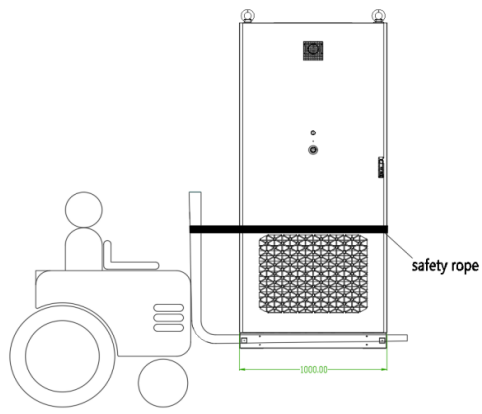

Figure 4-1 Schematic of Energy Storage Cabinet side forklift handling (forklift insertion is only permitted from the battery compartment side).
- Forklift forks may be inserted from all sides of the cabinet body. The forks should be inserted to the full depth of the cabinet body. Forklift schematic diagrams are illustrated in Figures 4-1, 4-2, and 4-3;
- It is recommended to prioritize side forklift handling for the Energy Storage Cabinet, as illustrated in Figure 4-1.